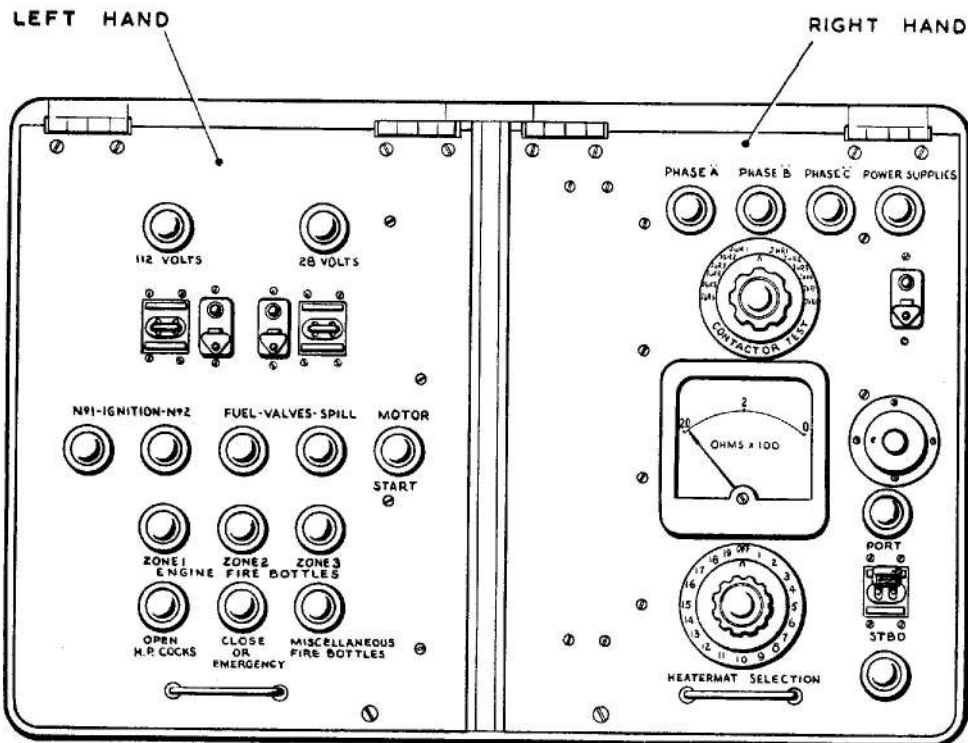

Fig. 2. Controls panels
9. The two control panels (*fig. 2*) in the top compartment are mounted side by side and are termed, respectively, left hand and right hand. The left hand panel carries the main switches, indicator lamps and circuit breakers for the 28 volt and 112 volt input and also the indicator lamps for starter motor, fuel and spill valves, ignition, H.P. cocks, engine fire extinguishers and miscellaneous fire extinguisher circuits. The right hand panel carries a SUPPLY ON circuit breaker and lamp, control switch and indicator lamps for test-